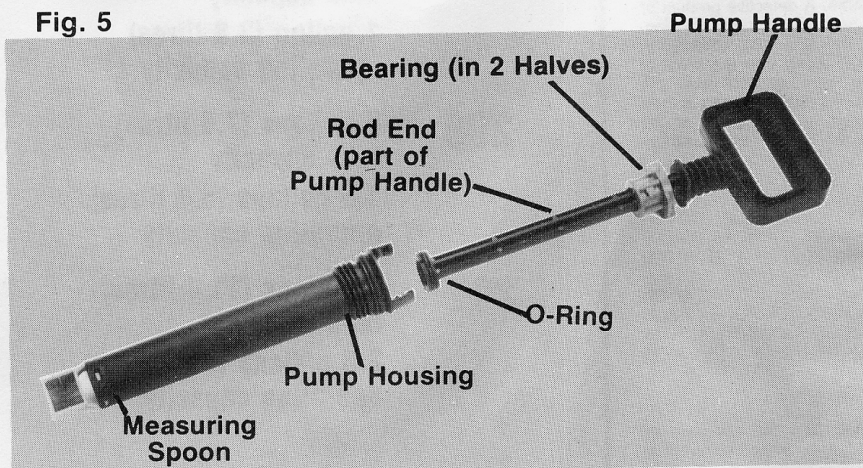

Fig. 5
- A. Depress Pump Handle and rotate counterclockwise to engage Pump Handle with Pump Housing and unscrew Pump from Tank (see Fig. 5).
B. There is a Measuring Spoon at the end of the Pump (see Fig. 5), eliminating the need for other measuring utensils. Each graduated "step" inside the "spoon" represents 1 teaspoon. The full "spoon" holds 3 teaspoons or 1 tablespoon or 1/2 oz. of liquid or powder.
Disengage the Pump Handle from the lugs on the Pump Housing, then turn the Bearing counter-clockwise to disengage from the lugs of the Pump Housing. Pull the rod end of the Pump Handle and Bearing out of the Pump Housing (see Fig. 5) and apply approximately 10 drops of oil on the O-Ring at the rod end of the Pump Handle; then reassemble.